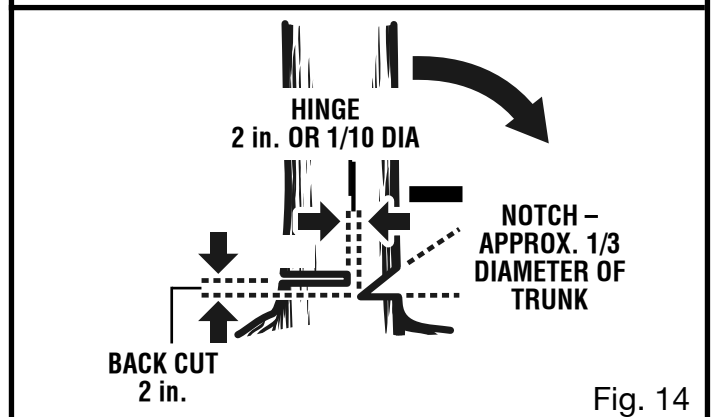

Fig. 14
line. To keep the weight of the wood off the saw, always make the lower cut of the notch before the upper cut. *See Figure 14.*
- **Felling Backcut.** The backcut is always made level and horizontal, and at a minimum of 2 in. above the horizontal cut of the notch. *See Figures 14 - 15.*
- Never cut through to the notch. Always leave a band of wood between the notch and backcut (approximately 2 in. or 1/10 the diameter of the tree). This is called “hinge” or “hingewood.” It controls the fall of the tree and prevents slipping or twisting or shoot-back of the tree off the stump. *See Figures 14 - 15.*